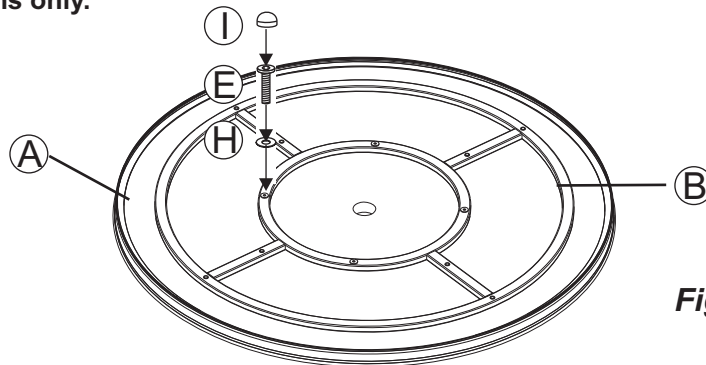

Figure 1
- 1 Place the table top upside down on a flat, non-abrasive surface. Attach the top connector bracket to the table top by using four bolts and $\text{Ø}20 \times \text{Ø}6.5 \times 1.0$ mm washers as shown in the **Figure 1**. Guide the bolts through the holes in the top connector bracket, into the pre-drilled holes in the table top. **Hand tighten 2-3 turns only.**